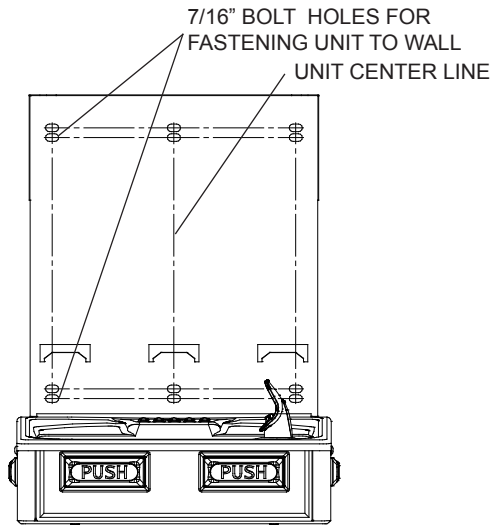

Fig. 5
- 2) Remove wall mounting plate from Bottle Filler. Place wall plate against wall on top of basin. Center the wall plate side to side with the basin. Mark the six (6) mounting holes with a pencil (See Fig. 5).
- 4) Install wall mounting plate to wall using six (6) 7/16" obround mounting holes (mounting bolts not included) (See Fig. 5). Use appropriate fasteners for your wall type.